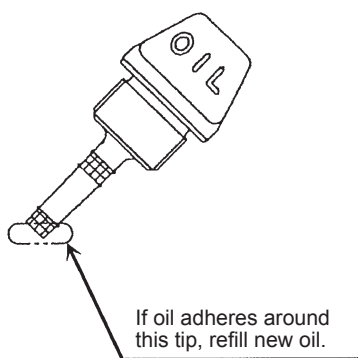
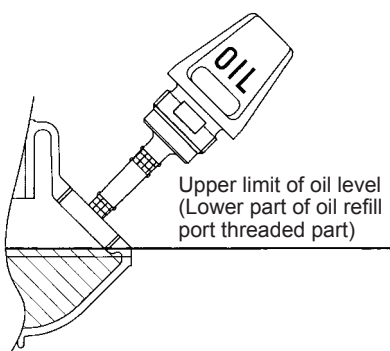

Fig. 1
Fig. 2
- While keeping the engine level, remove the oil gauge, and confirm that the oil is filled within the upper and lower limit marks. When the oil is in short in such a way that the oil gauge touches the oil only by its tip, in particular with the oil gauge remaining inserted in the crankcase without screwing-in (Fig. 1), refill new oil near the port (Fig. 2).
(1) Keep the engine level, and detach the oil gauge.
(2) Fill oil up to the edge of the oil refill port. (Refer to Fig. 2).